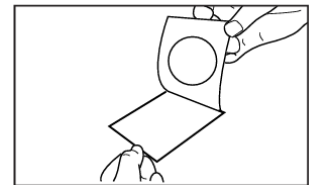

FIGURE 8
- a. Carefully lift the top film portion of the hydrated EB plate. *Do not touch the circular growth area.* Gel should adhere to the top of the film. (fig. 8)